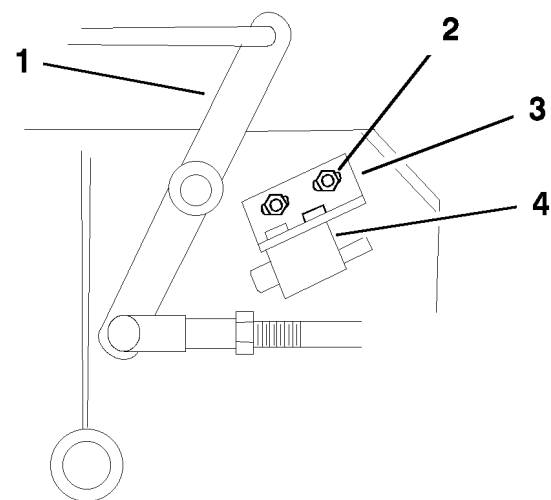

Figure 53
- If needed, adjust the blade safety switch by loosening the bolts holding the switch bracket (Figure 53).
Note: Make sure the bellcrank does not touch the switch body or damage to the switch could occur (Figure 53). Tighten the switch mounting bracket.